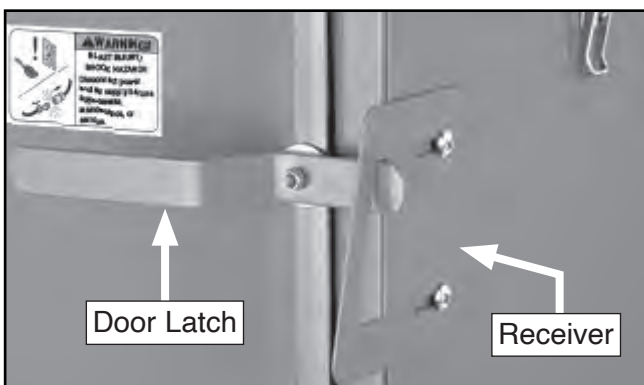

Figure 15. Door latched closed.
- Using fasteners pre-installed in cabinet and doors, install doors latch receivers, and adjust receivers so doors slightly compress seal when closed (see **Figure 15**).